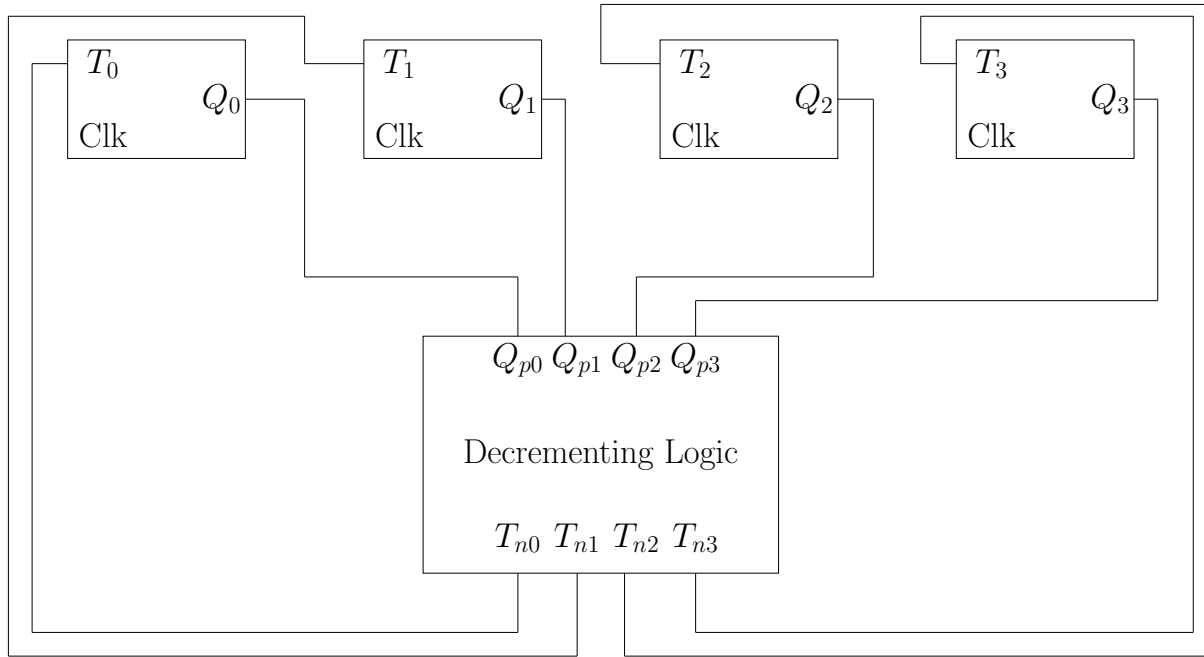

Figure 5: Simplified version of Circuit diagram
- Design the mode selection logic using basic gates as shown in Figure 5.